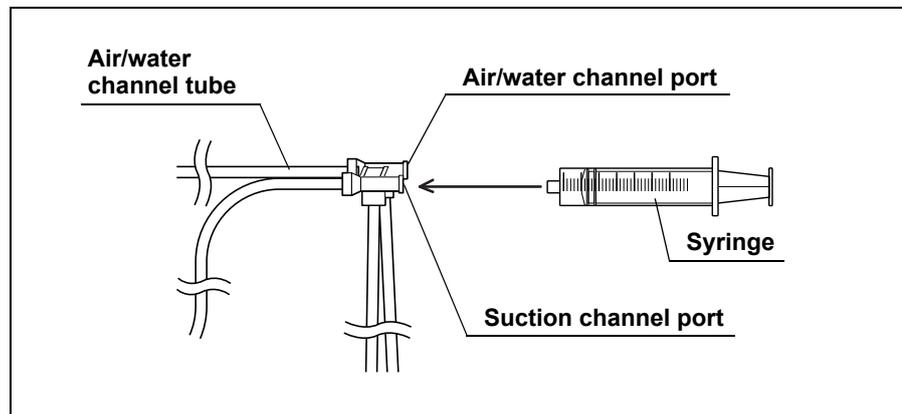

Figure 5.31
8. Attach the syringe to the suction channel port of the injection tube and flush the suction channel with 90 ml of air. (See Figure 5.31).
5. Attach a sterile 30 ml syringe to the suction channel port of the injection tube and flush the suction channel with 90 ml of the rinse water – i.e., pump the syringe at least three times. (See Figure 5.31)
12. Attach the syringe to the suction channel port of the injection tube and flush the suction channel with 90 ml of air. (See Figure 5.31)
4. Attach a sterile 30 ml syringe to the suction channel port of the injection tube and flush the suction channel with 90 ml of the alcohol – i.e., pump the syringe at least three times. (See Figure 5.31)